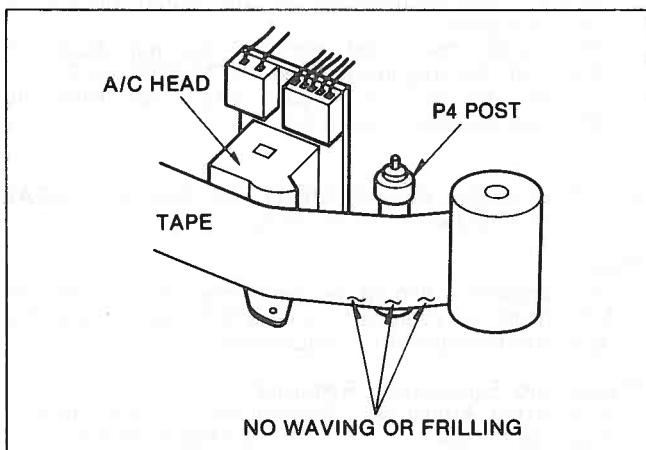

Figure M21
6. If there is waving or frilling in the lower edge (Figure M21), then repeat step 3 to 4.